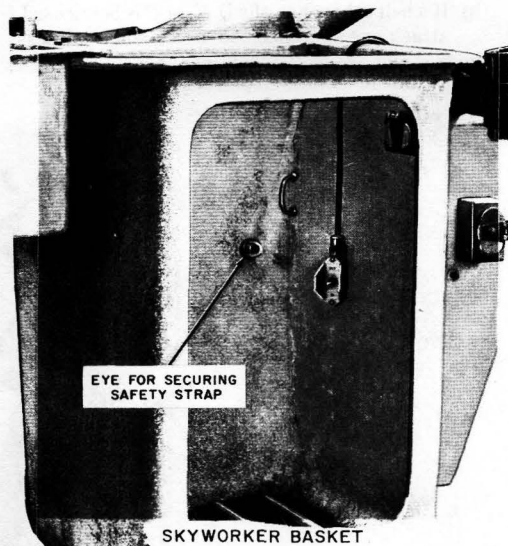
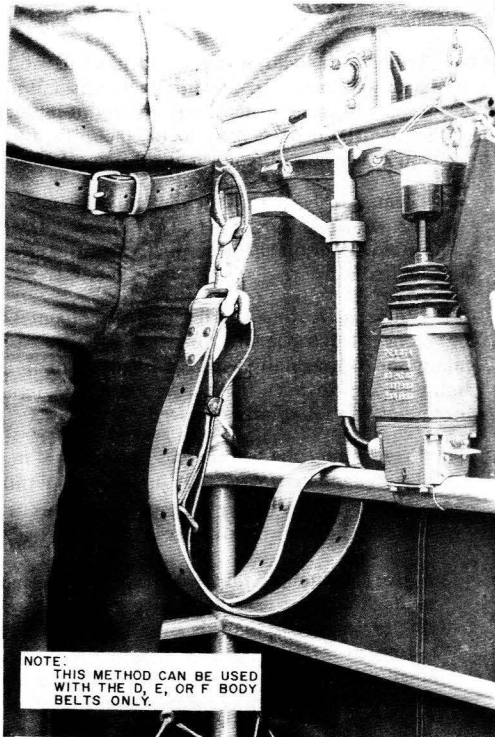

Fig. 9—Location of Eyes for Securing Safety Strap in Baskets of SKYWORKER and SERVI-LIFT Aerial Lifts
Fig. 10—Method of Using D, E, or F Body Belt With Safety Strap in TELSTA Aerial Lift
5.07 An employee working from the basket of an aerial lift shall be secured in the basket. When working from a SERVI-LIFT or SKYWORKER aerial lift, the employee shall be secured by attaching the safety strap to the eye (Fig. 9) provided in the basket. When working from a TELSTA aerial lift, use the method shown in Fig. 10.